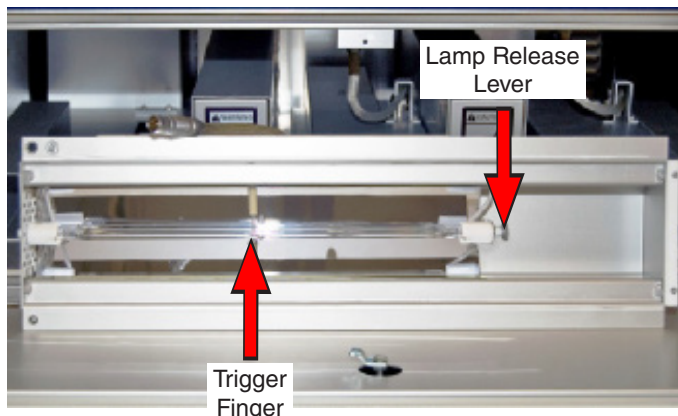

Figure 15.2a: Lamp housing showing trigger finger and lamp release lever.
1. Push lamp release lever right to release the lamp (Figure 15.2a).